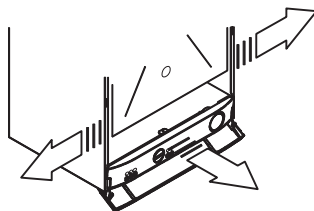

Figure 12.3
- Move the lower part of the side panels (figure 12.3).